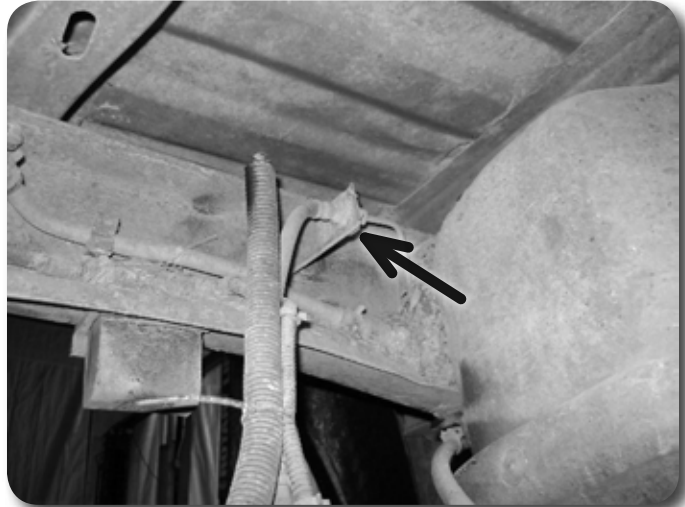

Figure 20
3. Remove the brake line retaining clip from the brake line mount on the driver's side frame rail. **Figure 20**